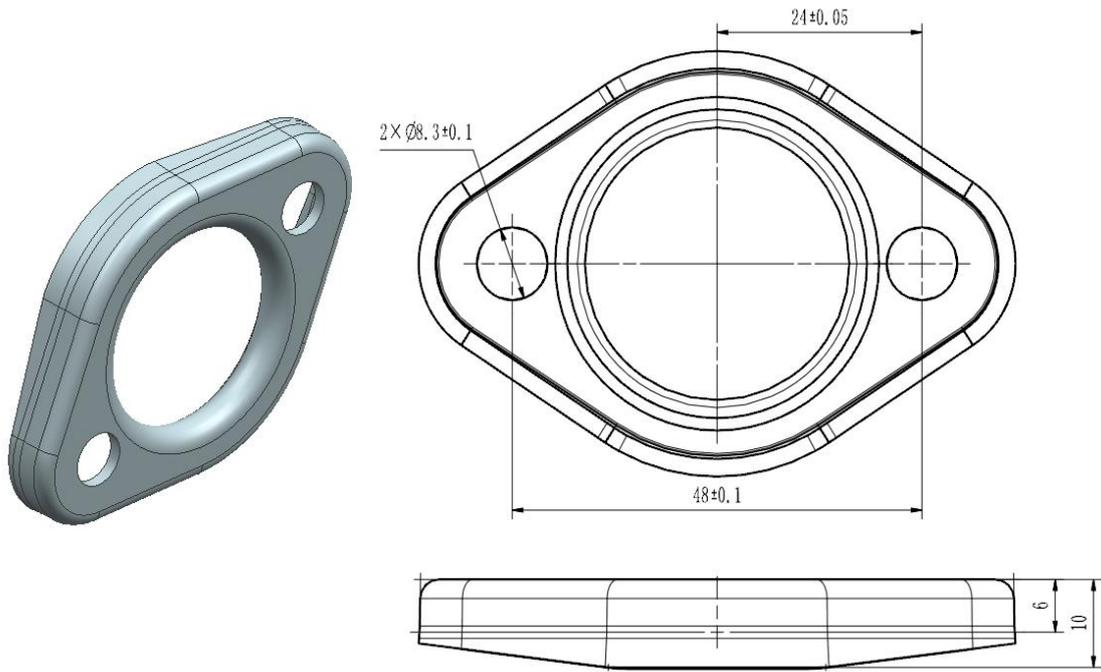

Fig.23
**Exhaust pipe flange** (see Fig 23), Material: 310S-ASTM A276-2015(substitute material: X15 CrNiSi20-12)。